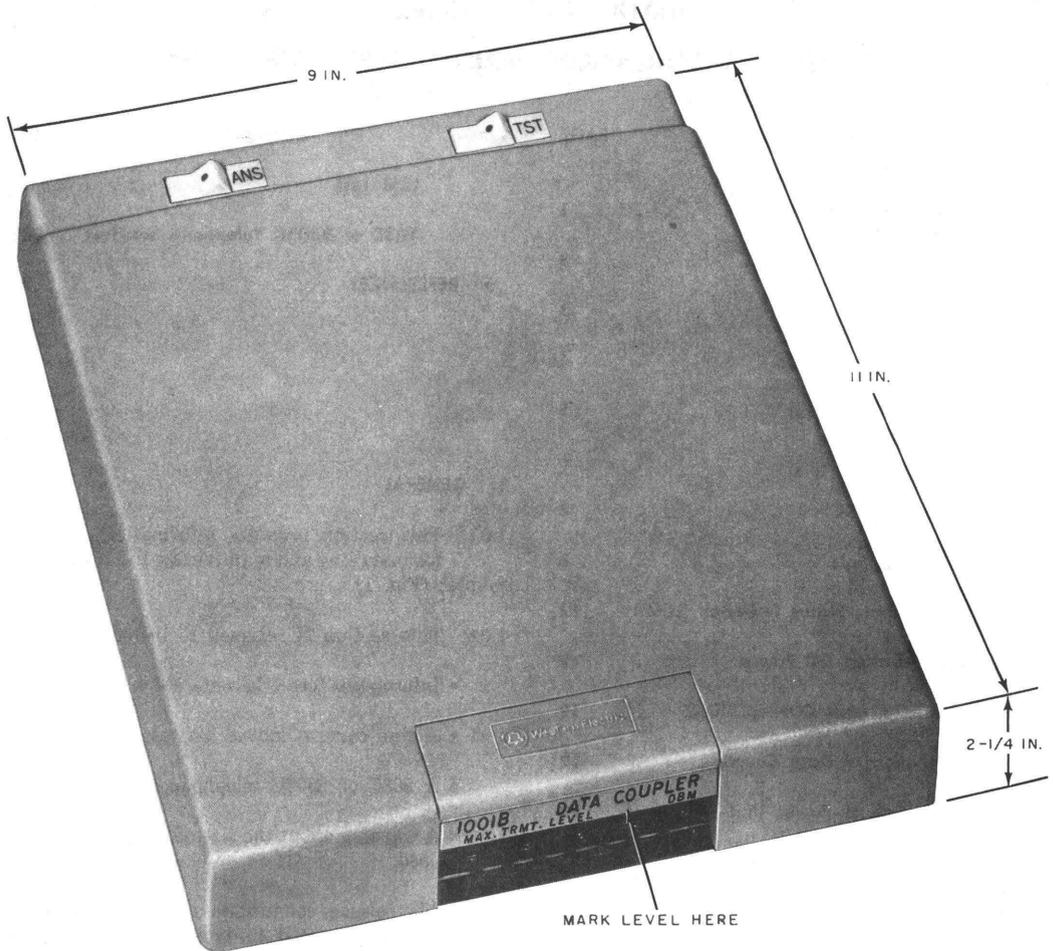

Fig. 1—1001B Data Coupler
**1.01** This section provides information required for installing and maintaining the 1001B data coupler (Fig. 1).